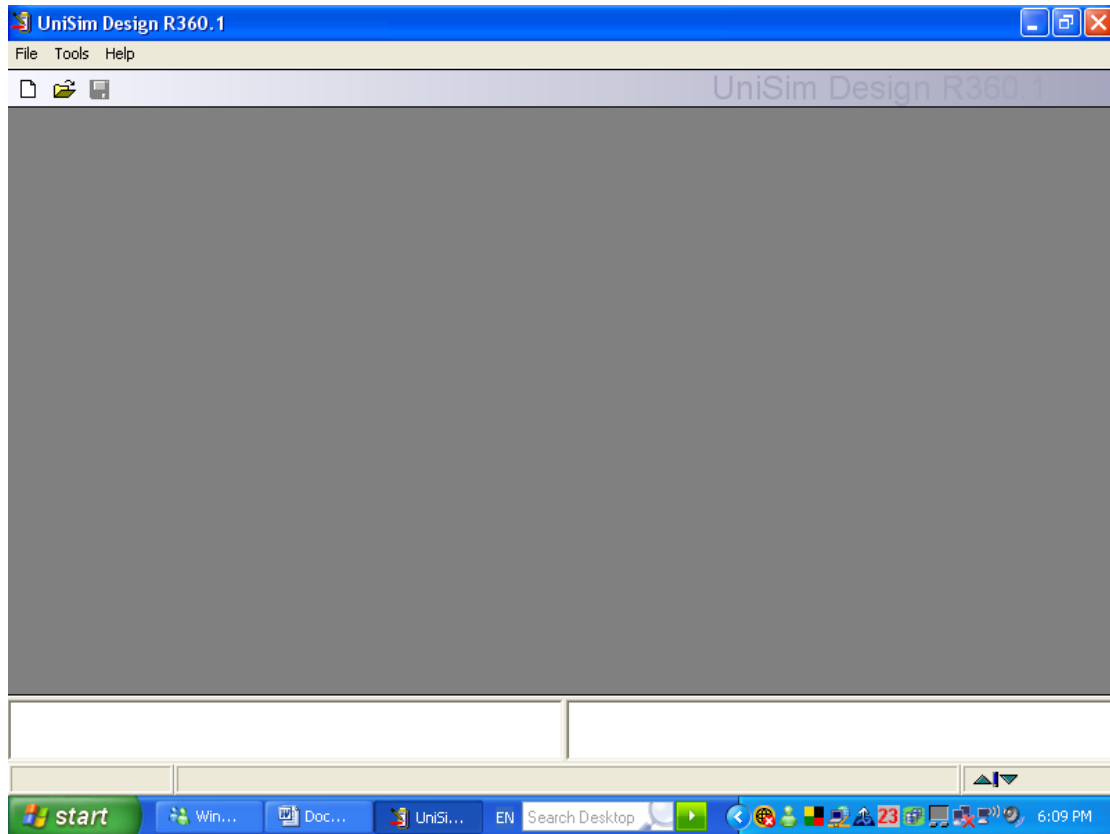

Figure K-1. Snap shot of UniSim design window.
Step 1. Double click on UniSim icon to display the simulation window as shown in Figure K-1.